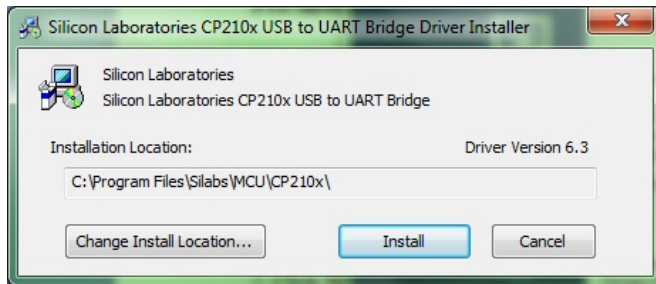

Figure 32 - USB Common Driver Install
7. Click **Install** to continue. Once the installation is complete, the **Installation Successful** message displays (see Figure 32).